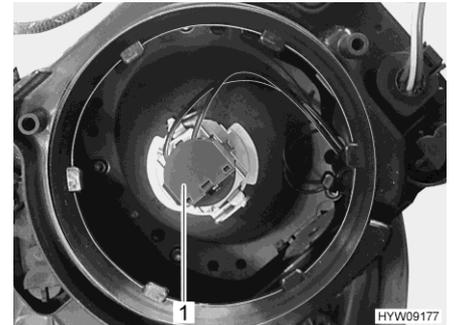

Fig. 220 Bulb (low beam/main beam)
- Turn the holder (Fig. 220,1) with the lamp in an anticlockwise direction and take it out of the lamp housing.
- Insert the holder (Fig. 220,1) with bulb into the lamp housing and tighten in a clockwise direction. The holder engages audibly.